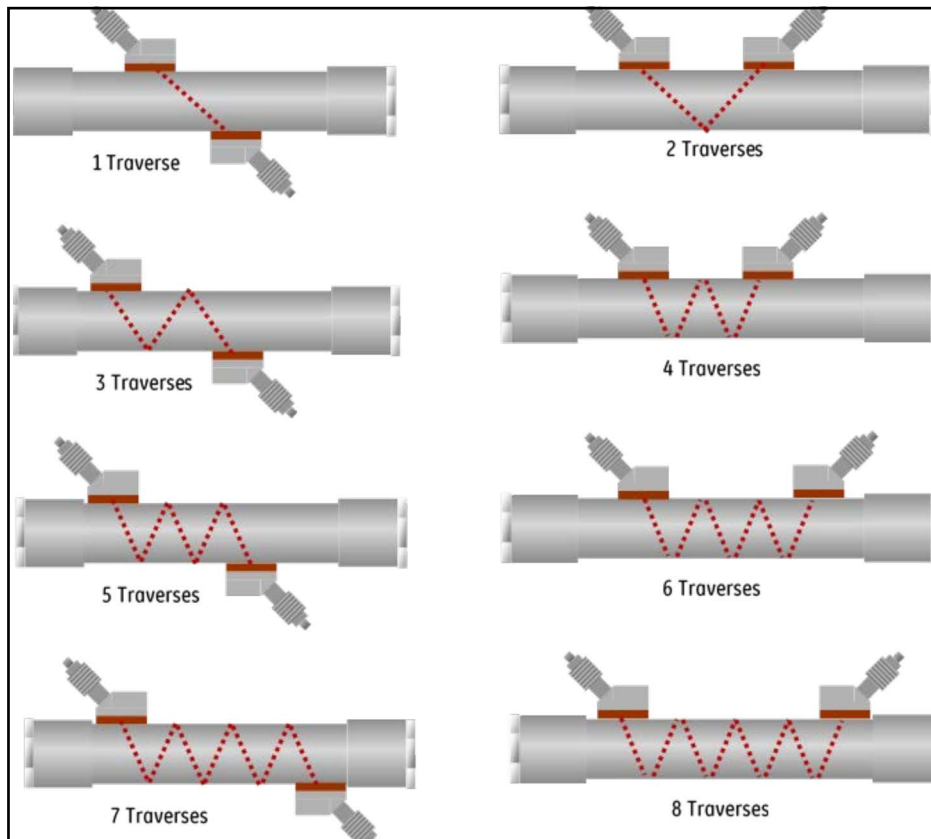

Figure 48: Traverse Configurations
2. Program the **[No. of Traverses]** based on your transducer installation and transducer configuration. Refer to Figure 48 for possible Traverse configurations supported in the meter. Typically, a two-traverse installation is used.